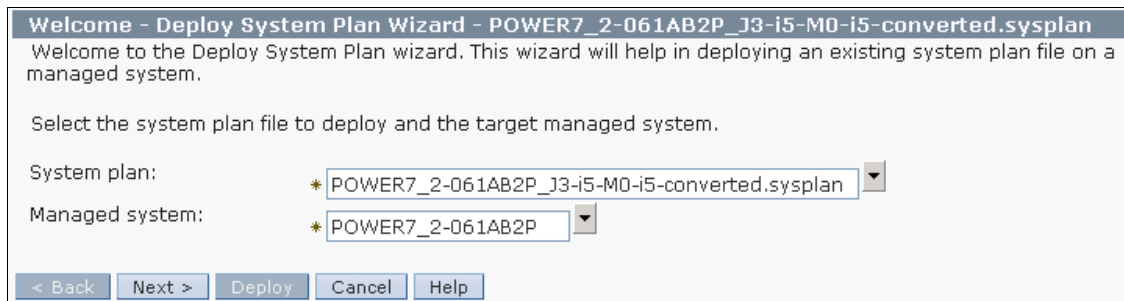

Figure H-8 Deploy System Plan Wizard
- Figure H-8 shows the first menu window where you can select the System Plan and target managed system.